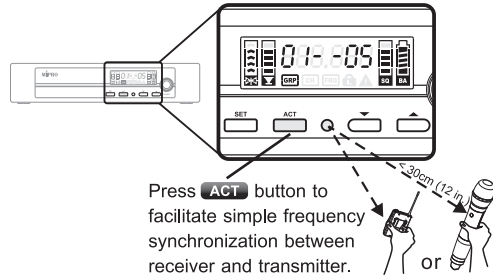

Fig. 17
- (1) To Lock: Press and hold the 'SET' button until the Lock icon appears. The display panel is locked and the parameters are not allowed to be changed.
- (2) To Unlock: Press and hold the 'SET' button until the Lock icon disappears.
(G) ACT Sync Setting. Fig. 17: